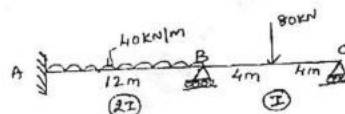

Fig. Q9
- 9 Analyze the continuous beam shown in Fig. Q9 by stiffness matrix method. Draw BMD. (16 Marks)